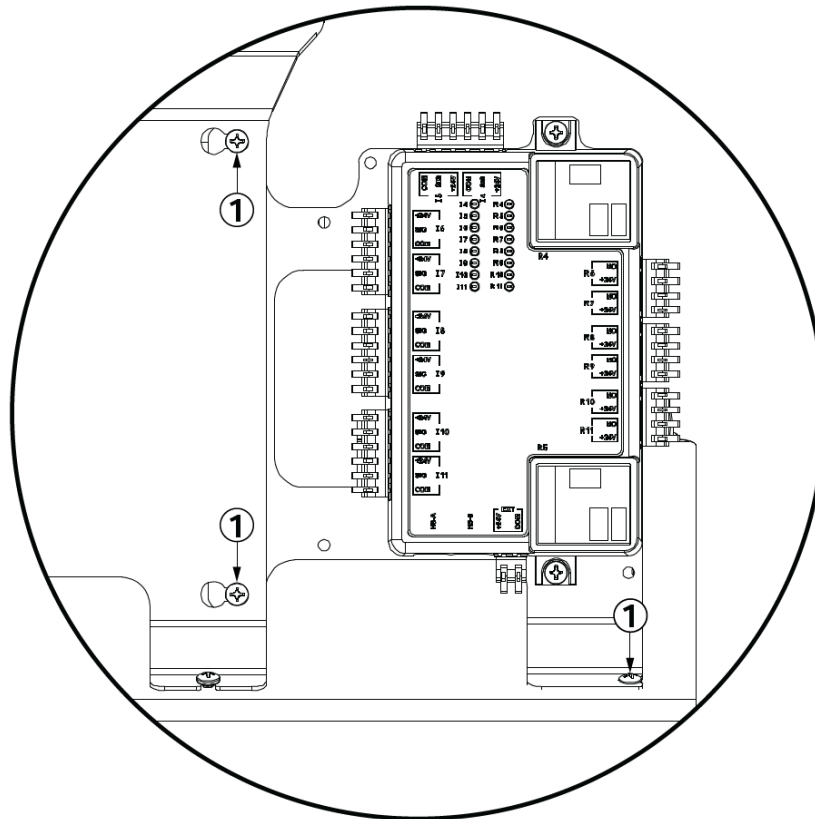

Figure 68. Install the I/O Expansion Module and Mounting Plate
1. Install the mounting plate to the operator to the right of the controller mounting plate. Make sure that the three screws marked (1) are in position and snug (Figure 68).